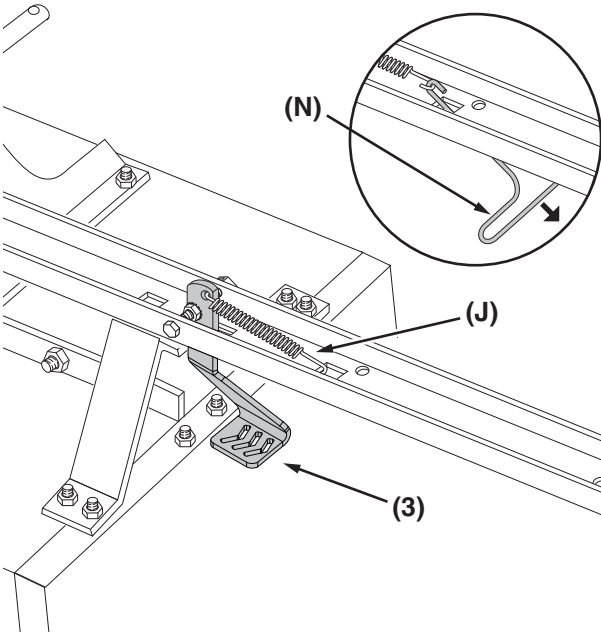

Figure 10
**STEP 10 (SEE FIGURE 10):** Install the extension spring (J) by attaching one end to the hole in the foot pedal (3). Use the spring puller tool (N) to attach the other side of the spring to the tongue as shown below.